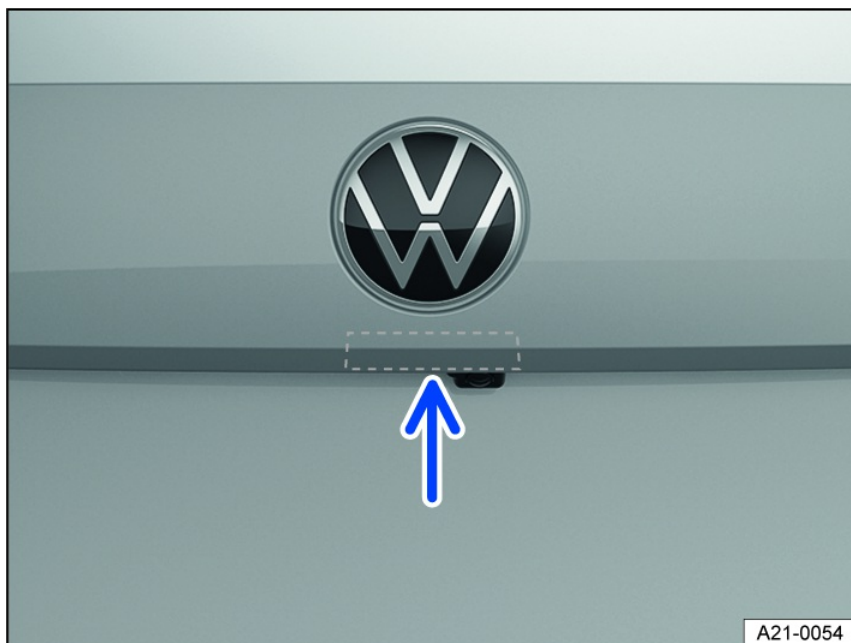

Fig. 53 In the trunk lid: Button to open the trunk lid (general example).
2. Raise the trunk lid using the button fig. 53.